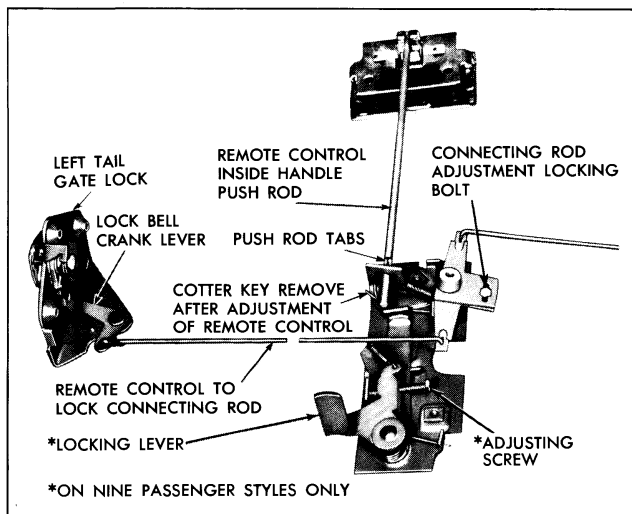

Fig. 5-17 Tail Gate Lock
control connecting rod from lock remote control (Fig. 5-17).
6. To attach lock connecting rod to remote control lever, loosen connecting rod adjustment locking bolt at remote control (Fig. 5-17) then install rod to lever and tighten locking bolt.
to raise window in tail gate to gain access to lever. Adjust remote control upward until tabs on handle push rod (Fig. 5-17) just contact remote control lever.
2. Disengage clips securing lock connecting rods to remote control (Fig. 5-17) and detach connecting rods from remote control.
2. Adjust remote control up or down until tabs on push rod (Fig. 5-17) just contact remote control lever.
3. To attach lock connecting rods to remote control lever, loosen connecting rod adjustment locking bolt (Fig. 5-17); then, install rods to levers and tighten locking bolt.
*IMPORTANT: If a new remote control is being installed, remove cotter key (Fig. 5-17) after adjustment, to free locking lever.*
6. On nine-passenger styles, lower window to approximately 1/2" up from full down position; then adjust remote control locking lever adjusting screw (Fig. 5-17) so that lever is just contacting window lower sash channel frame. Check operation of remote control inside handle - handle should remain locked until window is lowered to within 1/4" of the full down position.